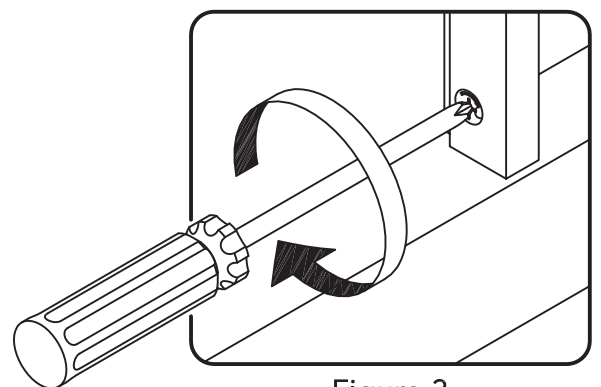

Figure 3
Attach Front Rails (I) and (J) to Middle Panel (N) with Cam Locks. (See Figure 3)